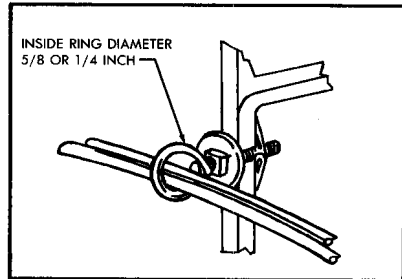

FIGURE 3. Toggle Bridle Ring
5.03 Toggle Bridle Ring (Figure 3): This attachment, available in two sizes, 3/4 inch and 1-1/4 inch, is used to attach station wire and cable to hollow surfaces. A predrilled 3/4-inch clearance hole is required.